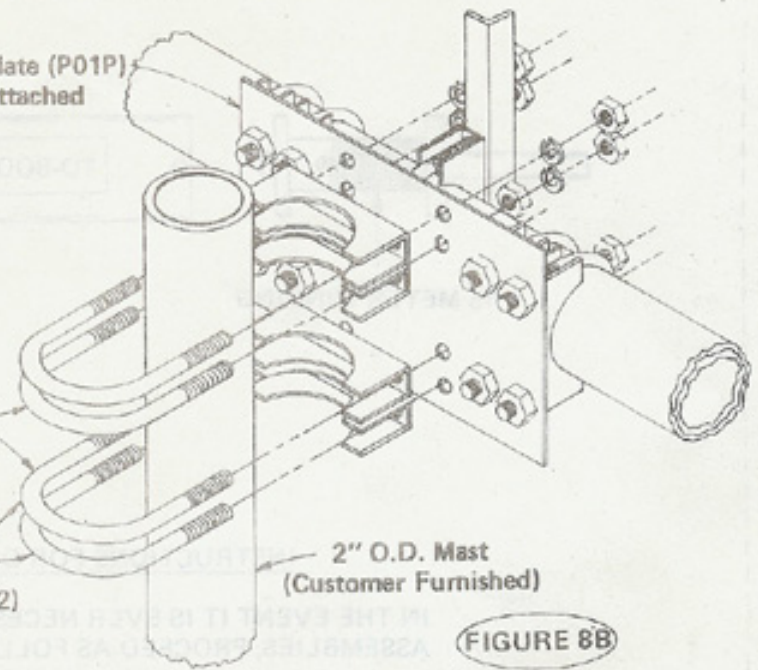

FIGURE 8B
7. Install the antenna on the mast per Figure 8B. Dress your coaxial cable down the mast and secure in several places with tape.